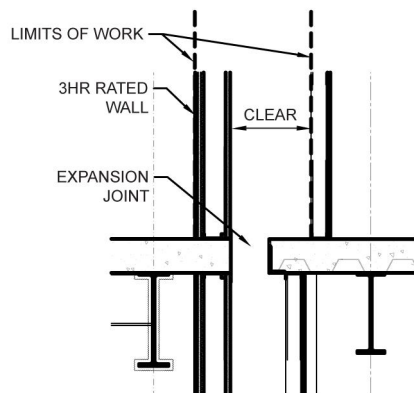

Figure 3.9A 3-hour Fire Rated Partition
5. At locations indicated on the Central Terminal B plans, SCDOA has installed a 3-hour fire rated partition as indicated in *Figure 3.9A. Reference Section 3.1 Building Conditions* for the 3-hour wall location. The partition shall not for any reason be penetrated. The Tenant is required to construct a self-supporting wall to conceal outlets, hang finishes, niches, etc.